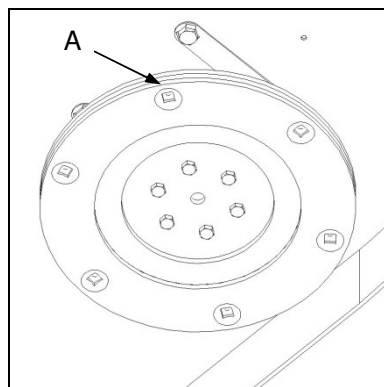

Fig. 6
- ✔ Check blade mounting holes (Fig. 6-A) for signs of wear, elongation or fractures. In the event of any observed defect do NOT attempt a repair, but immediately replace the defective disc.
- ✔ Gaan lemmonteringsgate (Fig. 6-A) na vir tekens van slytasie, rekking of breuke. In die geval van enige waargenome defek, moet NIE probeer om dit herstel nie, maar vervang die defekte skyf onmiddellik.